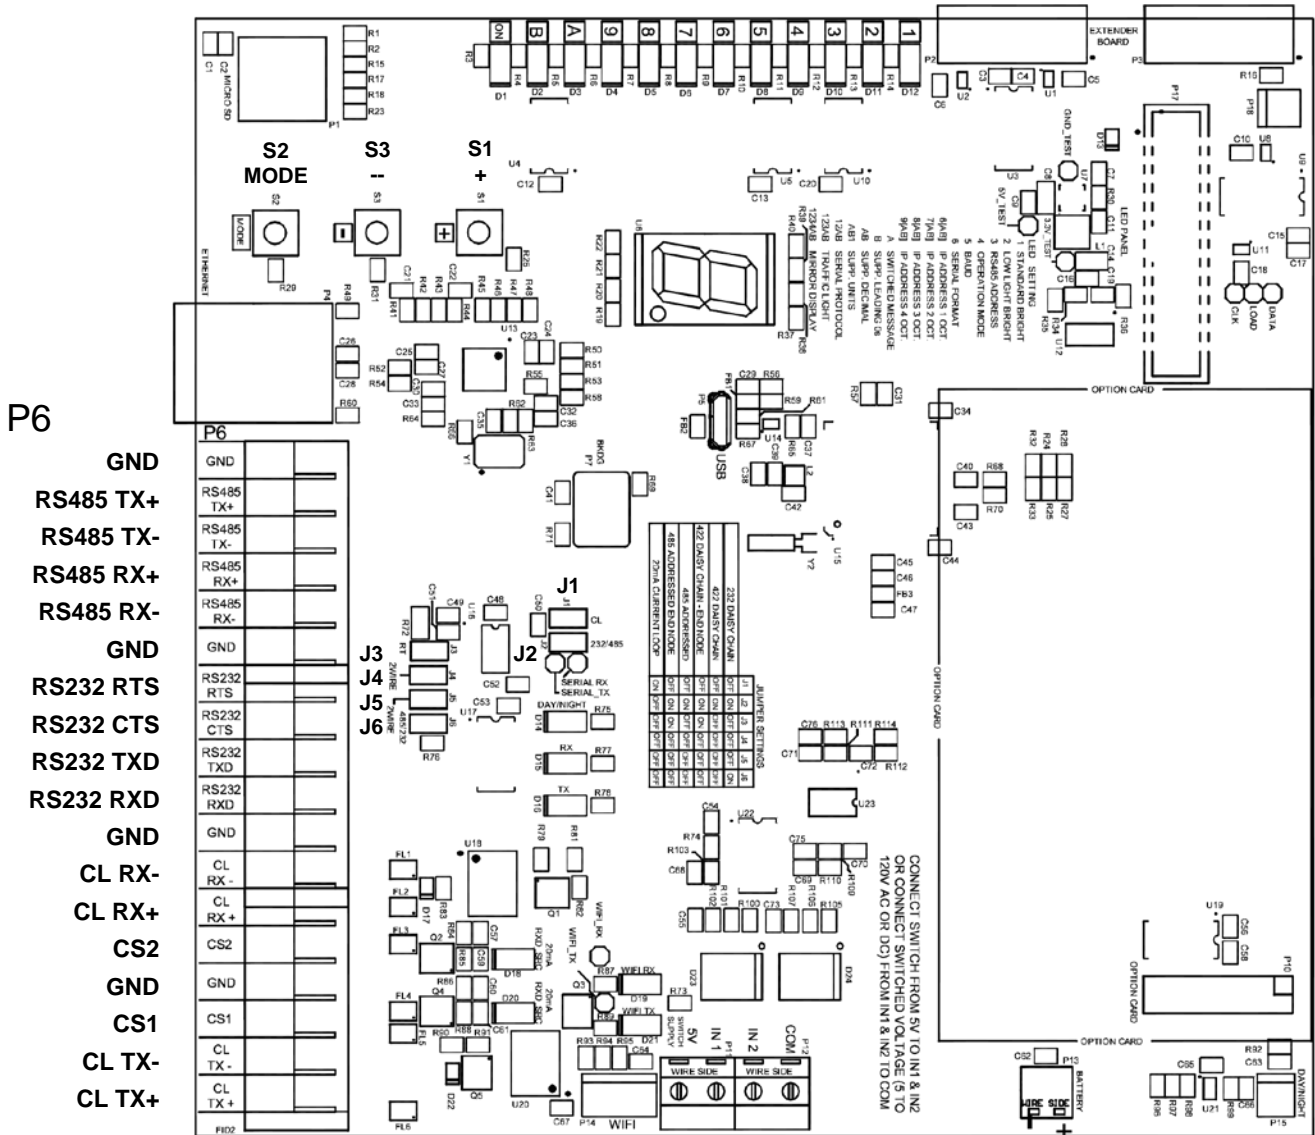

Figure No. 14
P6 = 18 terminal connector for serial cable connections. Refer to Figure No. 14.
4. Referring to Figure No. 14 for the location of the terminal block and for correct terminal connections, connect each of the wires to terminal block.
4. Referring to Figure No. 14 for location of the terminal block and for correct terminal connections, connect each of the wires to the terminal block.
4. Referring to Figure No. 14 for the location of the terminal block and for correct terminal connections, connect each of the wires to the terminal block.